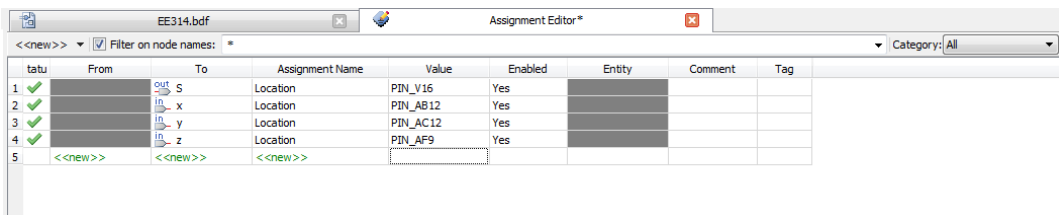

Fig. 12: Pin Assignment window after pin values are written
- 5) We will assign **LEDR[0]** as output and **SW[0], SW[1], SW[2]** as x, y, z respectively. Write the FPGA Pin No. expression in Appendix A to the column under the Value. For example to assign SW[0] switch to x, PIN_AB12 should be written to the row under the Value column. The resulting window should be similar to the window in Fig. 12.